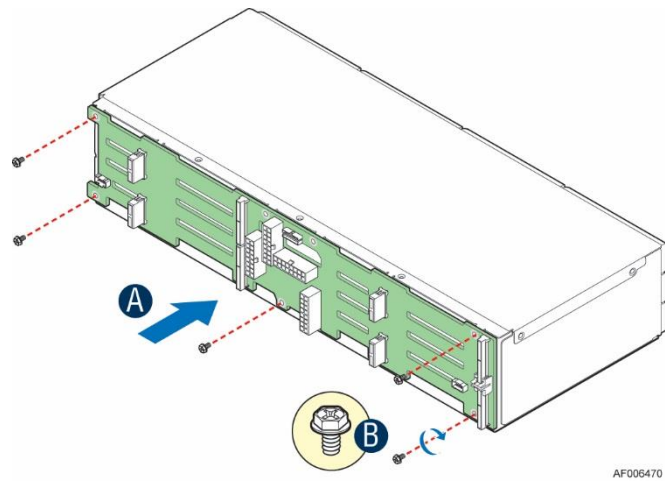

Figure 46. Installing the 12 x 2.5" backplane board to the drive cage
1. Attach the backplane board to the drive cage (A) and fix the backplane board with the screws (B) as pictured in Figure 46.